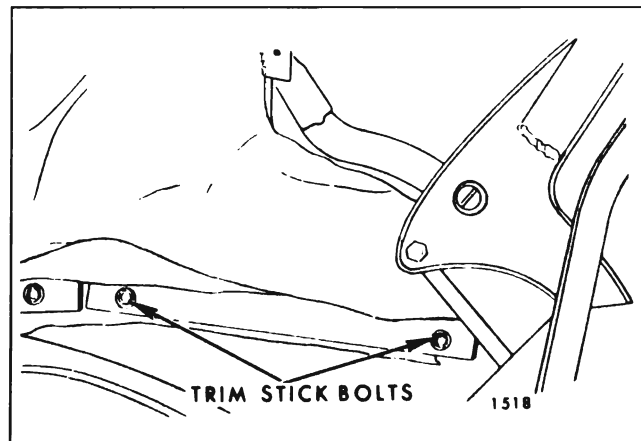

Fig. 13-47—Rear Quarter Trim Stick
5. At each rear quarter area remove attaching bolts securing rear quarter trim stick assembly to rear quarter inner panel (Fig. 13-47).